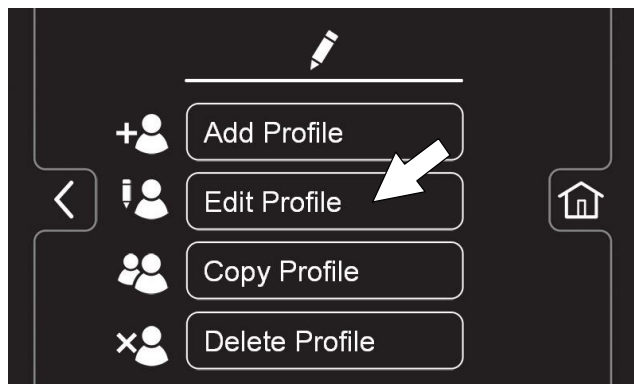

FIG. 173
3. Press the Edit Profile button (Figure 173).